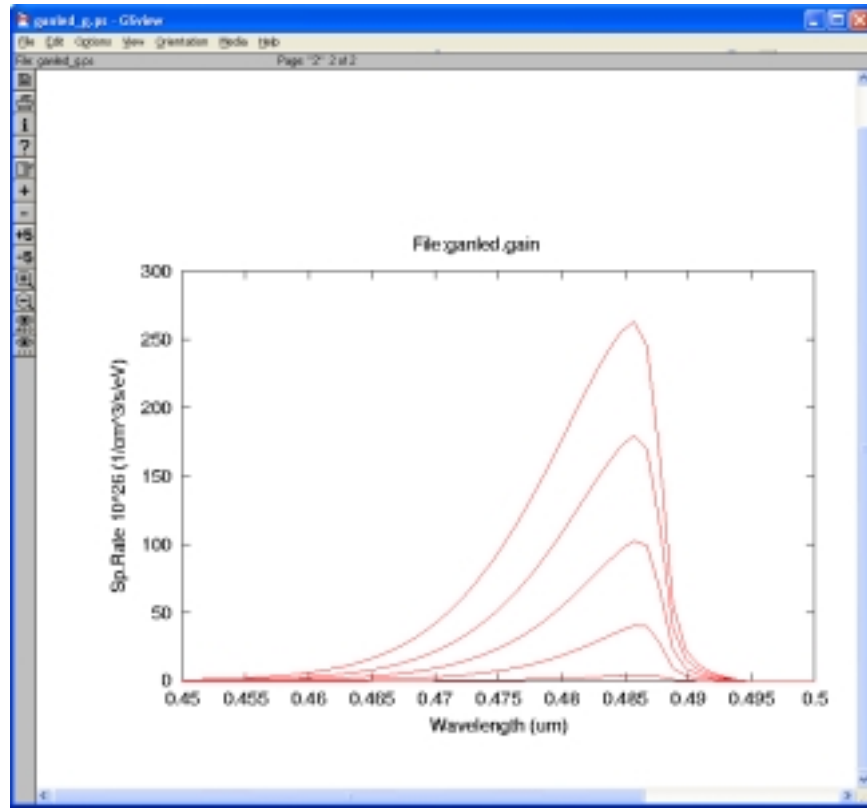

Fig. 15 Spontaneous emission spectrum at different carrier densities.
- (4) In this case, the optical gain is of little interest, however, the spontaneous emission spectrum should be evaluated. Right-click on “ganled.gain” and select “Process and View Gain File”. You will first see the negative gain spectrum (absorption) at low carrier densities. Clicking on “+” in the GSview side panel then shows the spontaneous emission spectrum with a peak at 485nm (Fig. 15). Close the GSview window, both figures are saved as ganled_g.ps
- (5) You can now start the main simulation using the ganled.sol file. Right-click on it and select “Start Simulation”. The simulation ramps up the current according to the settings in ganled.sol. The progress window displays the runtime output which will eventually be saved as ganled.log. It will take only a few minutes. During this time, evaluate the .sol file by double clicking on it. The main command here is “led_control”. No waveguiding effects are considered with “efficiency_model=uniform”. Use the Wizard to check out the command options used. You will find, for instance, that the reflectivity of all surfaces is set to 0.3 which should be modified for a more realistic simulation. Close the wizard after the simulation is completed. Click on “Save” in the pop-up window for the ganled.log file.